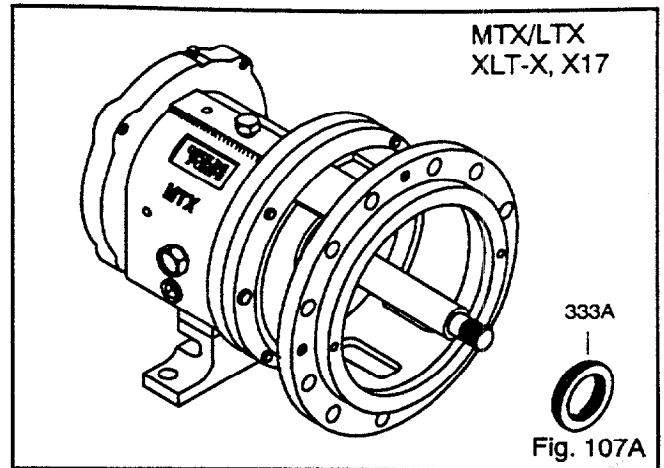

Fig. 107A
9. Install inboard labyrinth oil seal (333A) into adapter (108) / bearing frame (228). It is an O-ring fit. Position the labyrinth seal drain slots at the bottom (6 o'clock) position. (Fig. 107A, 107B)